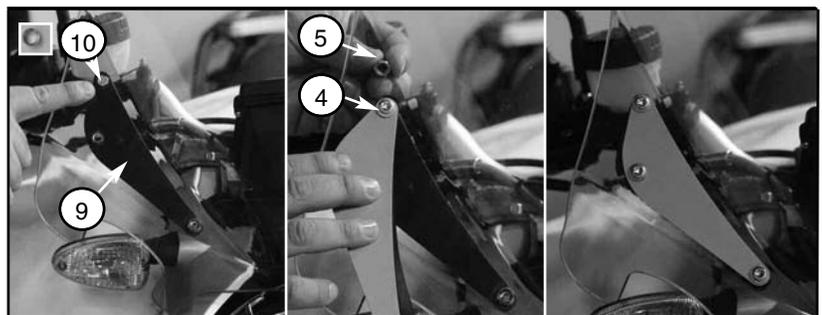

Figure 9
11. Position a gasket on top surface of windscreen. Insert a collar (10) into the top hole. Attach face plate to the front with with a screw (4) and secure from the back with a cap nut (5). Repeat for other holes. **(T30 Torx and 10mm Wrench) Figure 9**